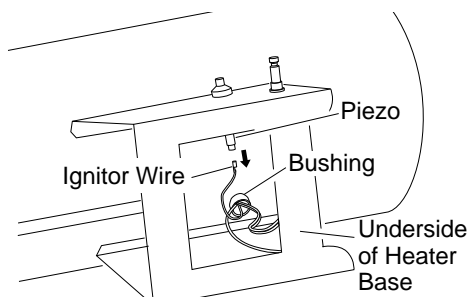

**Figure 12 - Replacing Motor and Fan Guard into Heater**
9. Place motor and fan guard into rear of heater shell. Make sure power cord is properly located (see Figure 12).